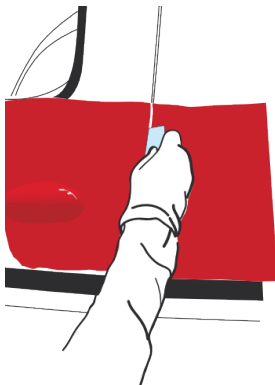

Figure 34
- › To finish, run the squeegee over the cut. Incline the squeegee towards the thinner edge. (FIG. 34)